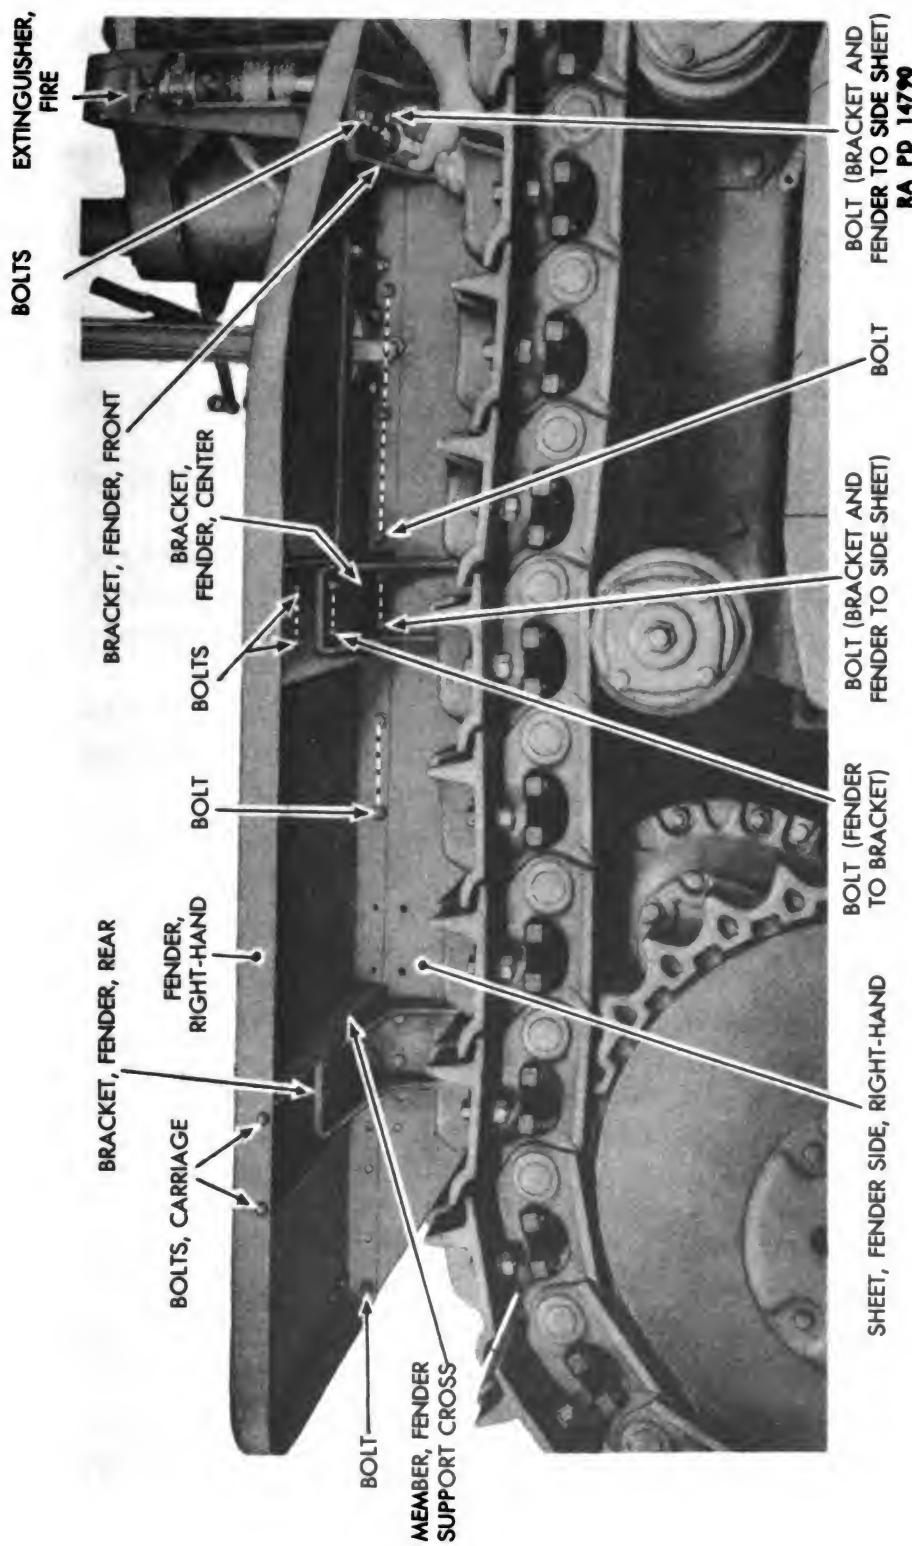

Figure 192 – Right Fender Removal
- (11) REMOVE RIGHT FENDER (fig. 192).
(13) REMOVE LEFT FENDER (fig. 192).